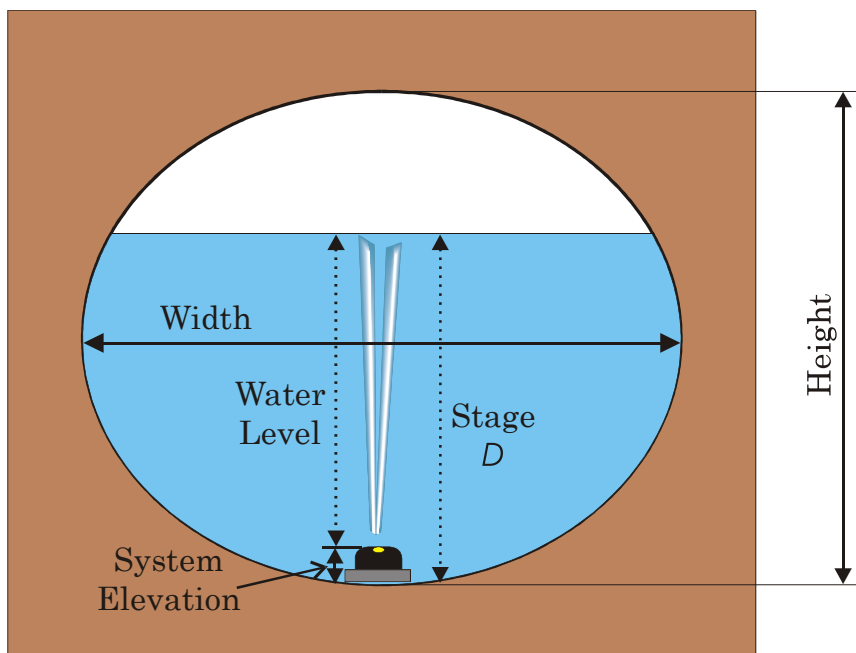

Figure C-6. Ellipse Pipe Geometry – Argonaut-SW
>ChannelType Trapezoid                      See Figure C-6.
- **Ellipse**: The height of the top of the system (vertical beam transducer face) relative to the bottom of the pipe. Available for SW (**Figure C-6**) systems only.